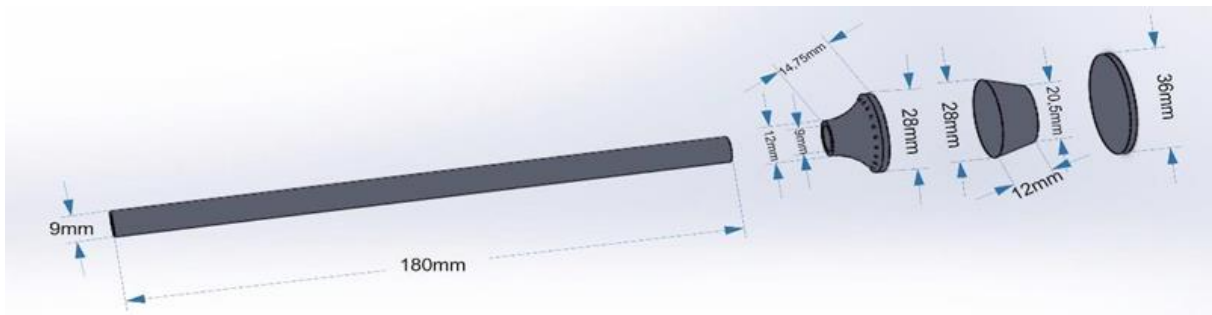

Figure 3. Arrow Dimensions
- Dimensions of the coloured areas: The dimensions of the turquoise blue area are 700 mm x 400 mm, as shown in Figure 3. The dimensions of the green area (Bridge) are: length 800 mm, width 300 mm, and maximum height 80 mm.
The arrow consists of four parts. (Figure 3) These parts are a wooden shaft, a PLA tip printed on a 3D printer, polyethylene foam, and a female Velcro tape. The arrow shaft is 9 mm in